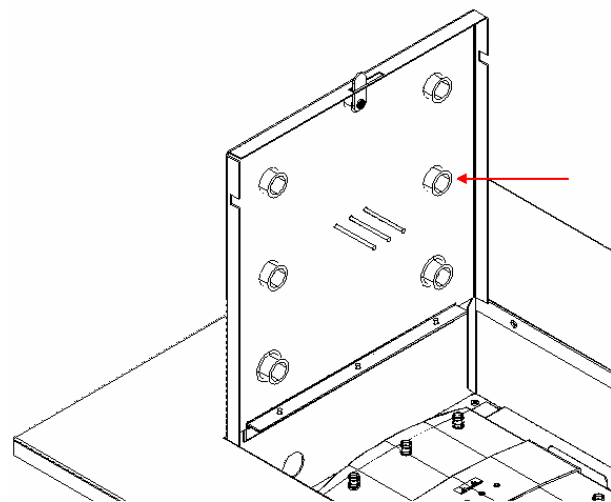

Figure 2 - Installation of Antennas.
Step 2 – Remove the hole covers in the door by depressing the tabs on the inside of the covers (*ref Figure 2*). The antennas should be installed by placing the cable through the antenna openings in the enclosure cover from the outside of the box. After the cables have been pulled through the door, connect the antennas to the access point.